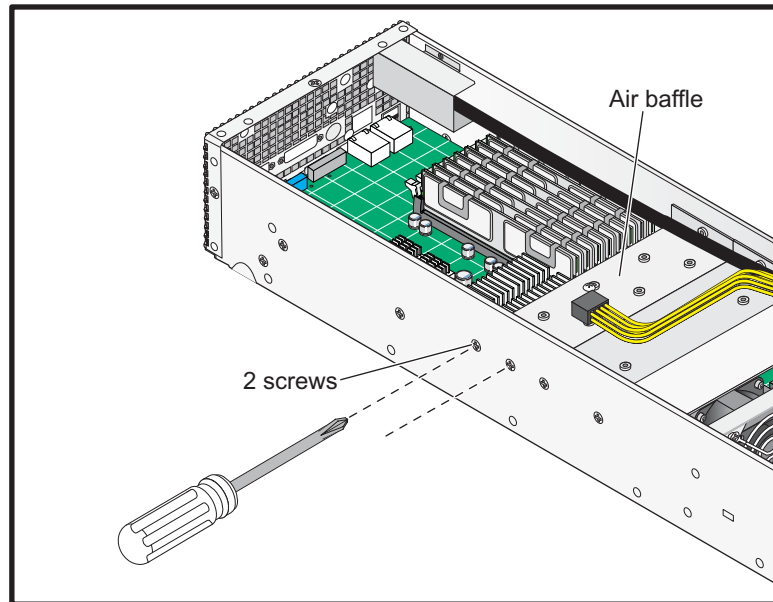

Figure 3-14 Air Baffle Removal
2. Remove two screws on each side of the chassis (refer to Figure 3-14).